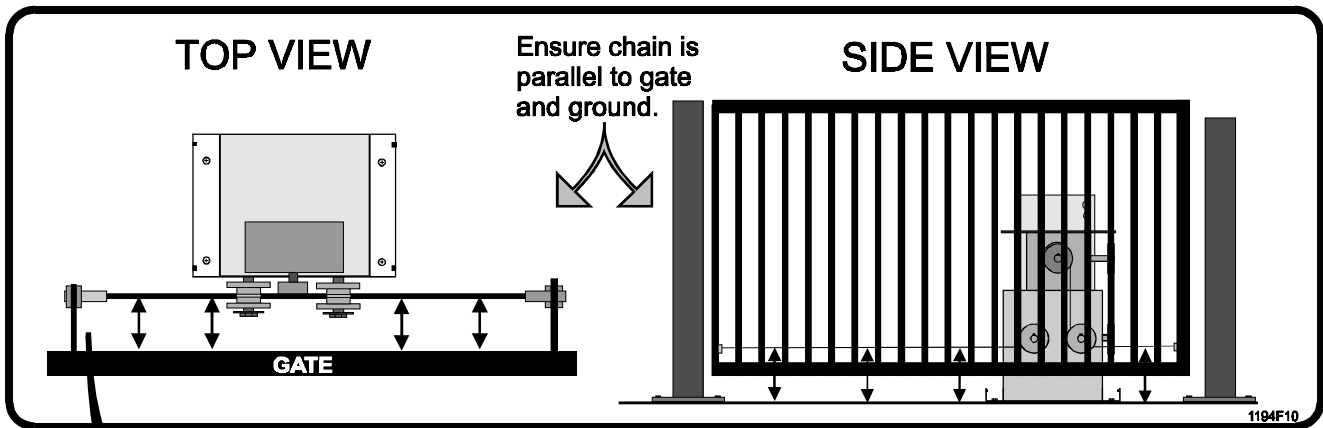

Figure 9. Parallel Chain Location.
6. Attach gate anchor to gate by welding (Figure 9).
8. Ensure the chain is parallel to gate travel both horizontally and vertically (Figure 9).